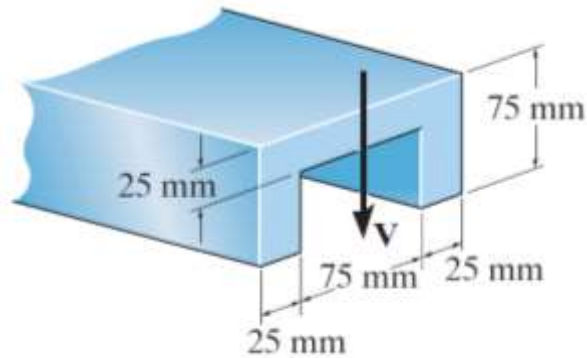

Figure Q3a
- (a) Determine the maximum shear stress in the member in Figure Q3a if a shear force, V of 90 kN is applied.